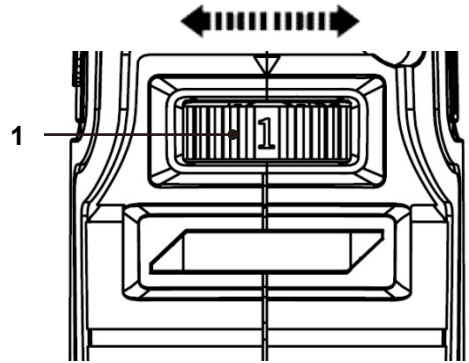

Fig.14
- > To change the rotation speed, turn the speed adjusting dial (1) between "1" and "6" (Fig. 14). The higher the number is, the higher rotation speed is. For example, a speed setting of "1" is approximately 5000rpm and a speed setting of "6" is approximately 25000rpm.